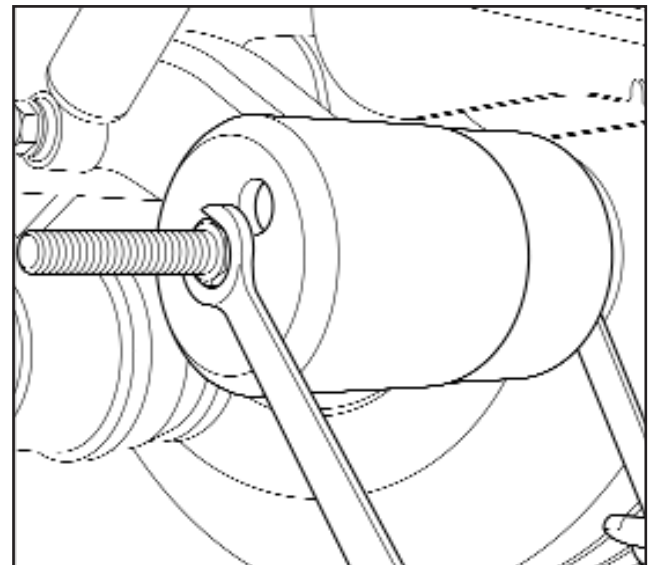

Fig 4.31
15. Apply turning moment to the nut "A" at the bearing end, continue turning the nut until the pivot bush is drawn completely into the funnel "D" (Fig 4.31).